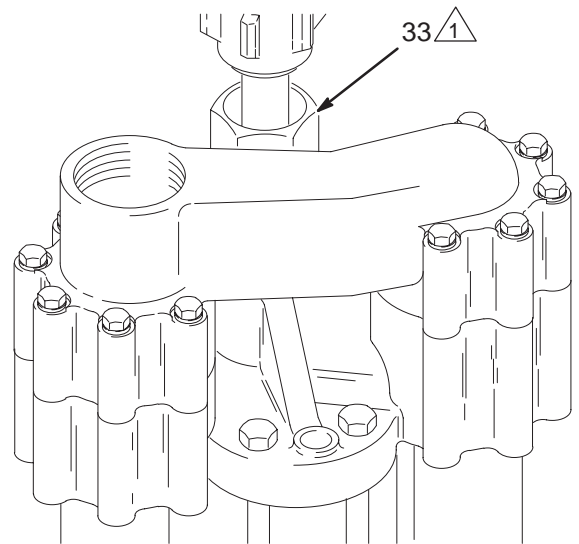

Fig. 7
1. Fill the wet-cup/packing nut (33) one half full with Graco Throat Seal Liquid (TSL). See Fig. 7.